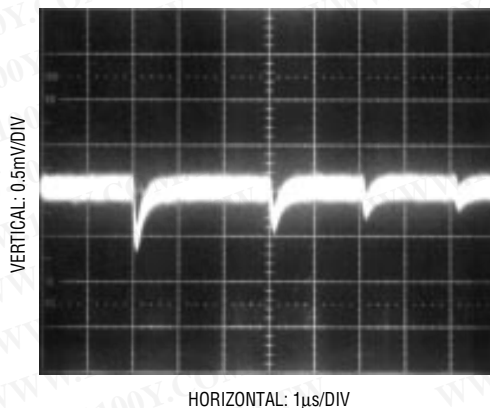

Figure 15. Adequate Reference Settling
1. Transients on the reference inputs caused by the capacitive switching currents must settle completely during each bit test (each 4 ACLK cycles). Figures 15 and 16 show examples of both adequate and poor settling. Using a slower ACLK will allow more time for the reference to settle. However, even at the maximum ACLK rate of 4MHz most references and op amps can be made to settle within the 1 $\mu$ s bit time. For example the LT1027 will settle adequately or with a 10 $\mu$ F bypass capacitor at REF+ the LT1021 can also be used.